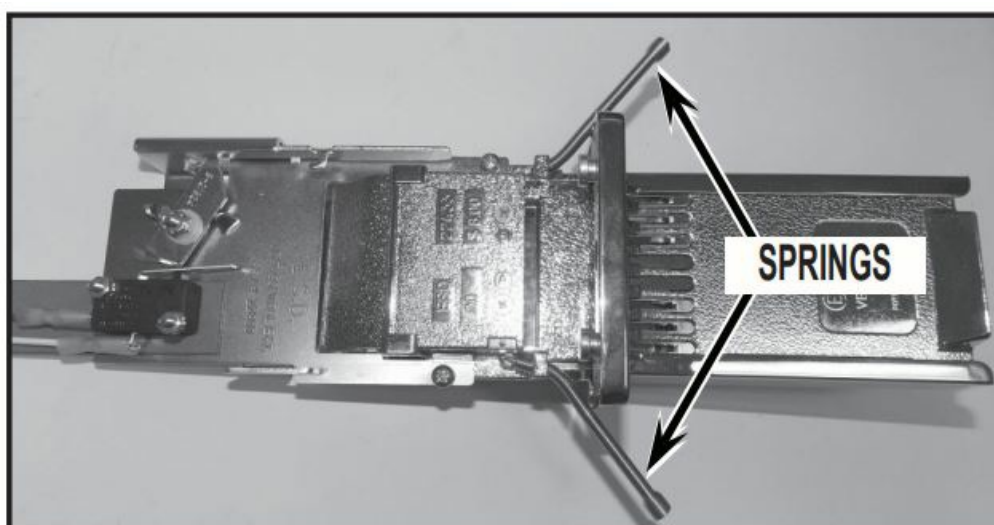

FIGURE 2
1. Take both springs off their hooks (no need to remove the springs from the coinslide body). See Figure 2.